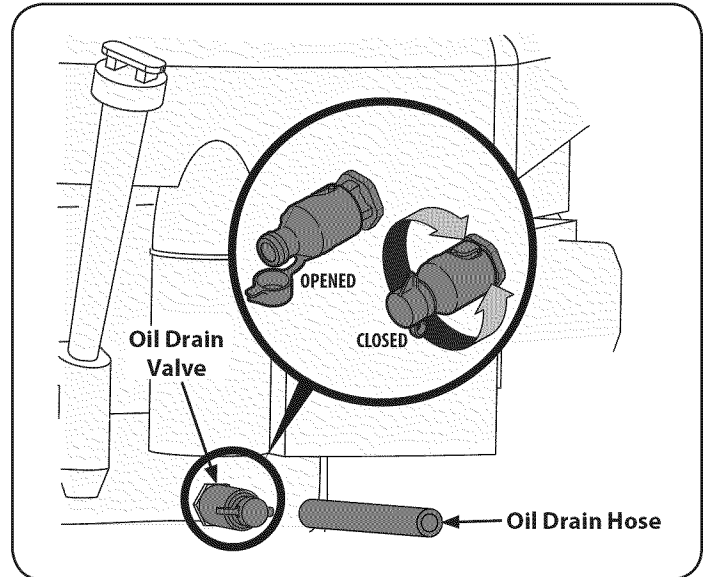

Figure 23
2. Locate the oil drain valve on the left side of the engine. See Figure 23.
3. Pop open the protective cap on the end of the oil drain valve to expose the drain port. Refer to Figure 23. Remove the oil fill cap/dipstick from the oil fill tube.